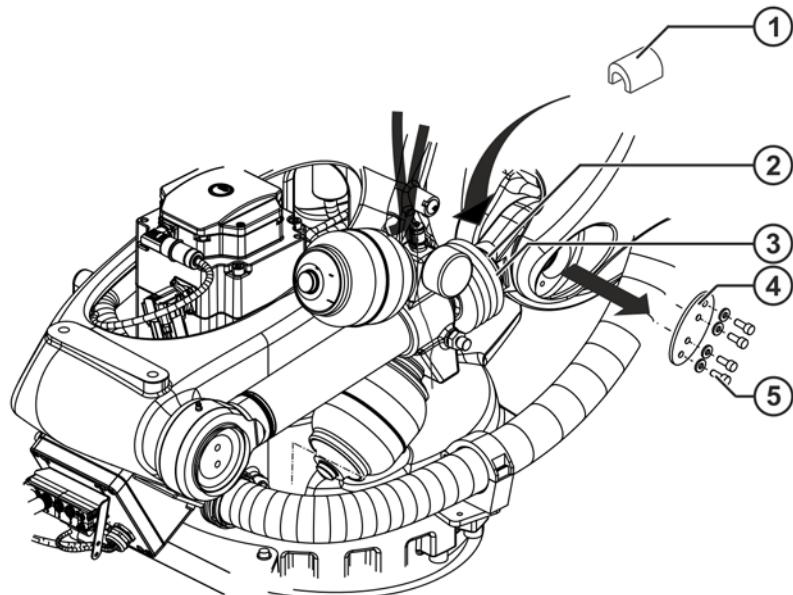

Fig. 11-19: Removing the counterbalancing system: spacer
1. Slacken the worm drive clip and push the bellows backwards (=> Fig. 11-19).